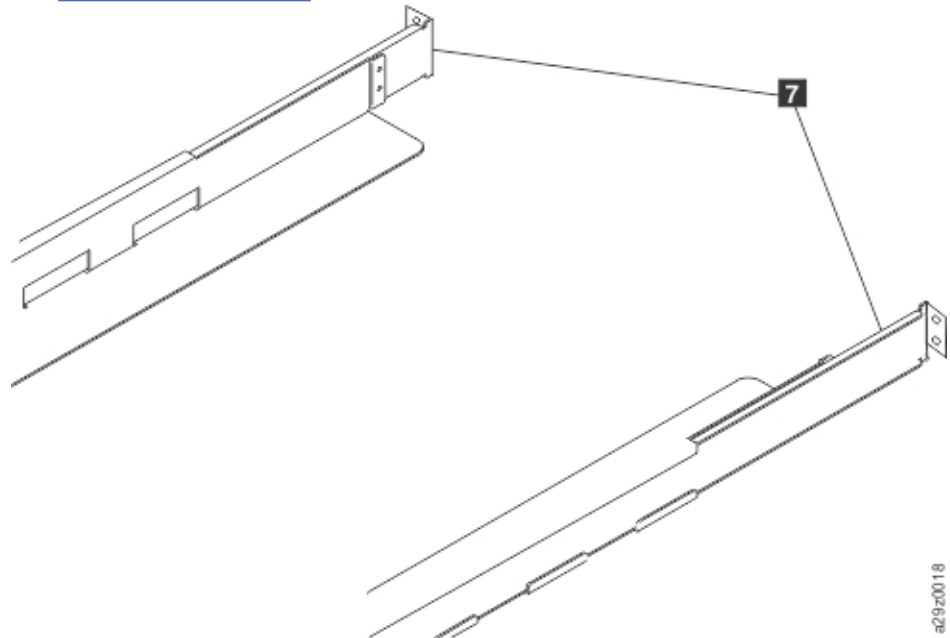

Figure 13. Creating the rail assemblies
- Slide in the rear rails **7** from back to front to create the rail assemblies. Ensure that the screw holes face outwards (Figure 13 on page 23).